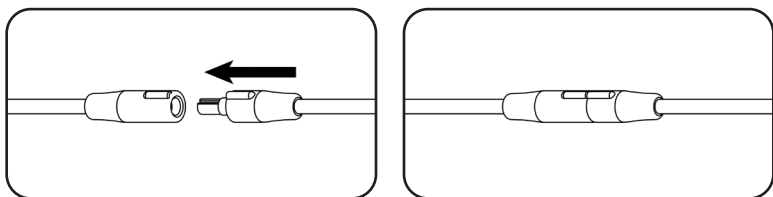

Figure 9. Align the raised grey bar on the Trial Stimulator with the raised bar on the Basic Trial Cable (left).
4. Connect the basic trial cable to the External Trial Stimulation (**Figure 9**).